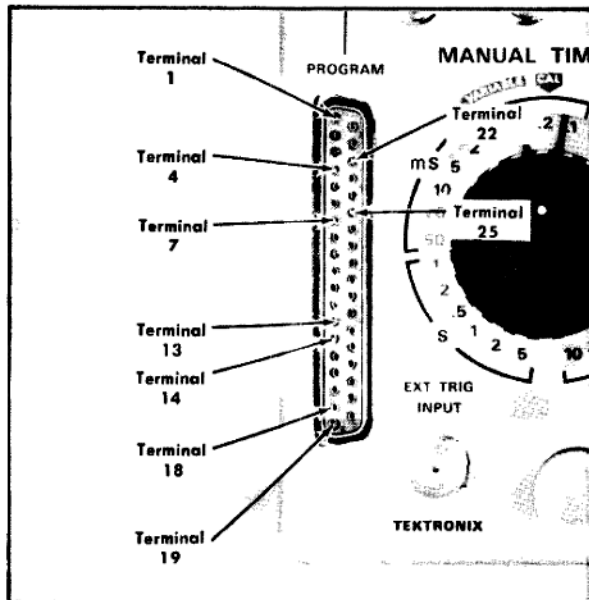

Fig. 6-32. Location of PROGRAM connector terminals used in steps 31—35.
- a. Connect the DC voltmeter from terminal 1 of the PROGRAM connector (see Fig. 6-32) to chassis ground.
- c. Connect the DC voltmeter from terminal 18 of the PROGRAM connector (see Fig. 6-32) to chassis ground.
- e. Connect the DC voltmeter from terminal 19 of the PROGRAM connector (see Fig. 6-32) to chassis ground.
- a. Set the Trigger Function switch to EXT-AC or DC (no trigger signal connected). Connect a jumper lead (#18 or #20 solid wire) between terminals 1 and 13 of the PROGRAM connector (see Fig. 6-32) and connect a 20 k Ω , 1/2 watt resistor between terminals 14 and 22. (If using the special circuit, set switch to external horizontal.)
- a. Connect a jumper lead (wire) from the indicator oscilloscope calibrator output connector to terminal 4 of the PROGRAM connector (see Fig. 6-32). (If using the special circuit, connect a BNC cable from the calibrator output connector to the external horizontal input connector and switch to external horizontal.)
- e. Connect a jumper lead (wire) between terminals 7 and 18 (Caution; +125 volts) of the PROGRAM connector (see Fig. 6-32). (If using special circuit, set switch to single sweep.)
- g. Connect a jumper lead to terminal 25 of the PROGRAM connector (see Fig. 6-32). Momentarily touch the other end of the jumper lead to terminal 1. (Disregard this step for special circuit.)